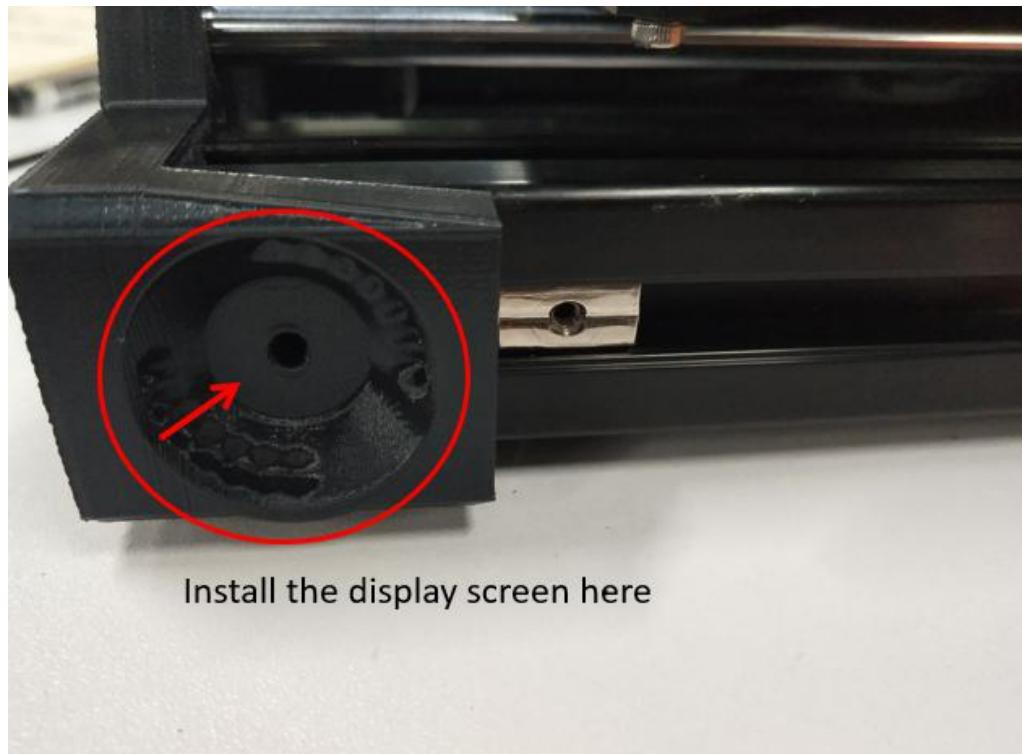

Figure 1.14.2
**Step 1-14-2:** As shown in Figure 1.14.2, prepare the material base profile frame, install the display to the mounting hole on the MINI-y-plate-front, and use M3×12 cylindrical head screws to install it. Locked, the monitor can be rotated up and down to adjust the angle according to personal preference.